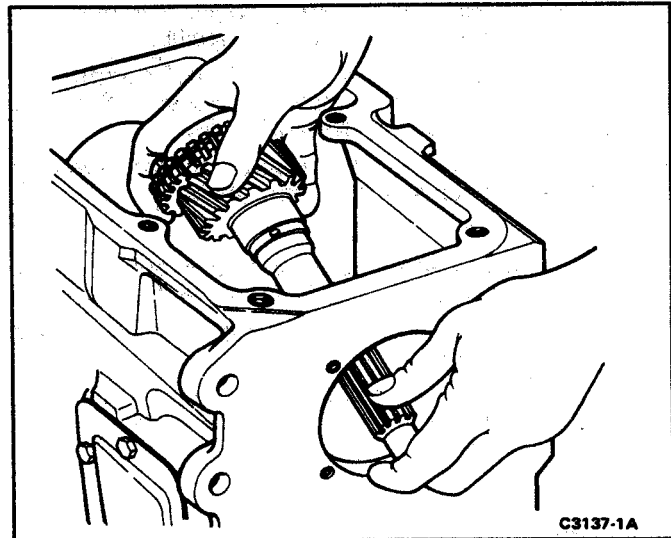

FIG. 9 Removing Input Shaft Assembly
11. Remove the input shaft assembly from the case (Fig. 9). Do not lose the 22 pilot bearing rollers from the inner end of the shaft.